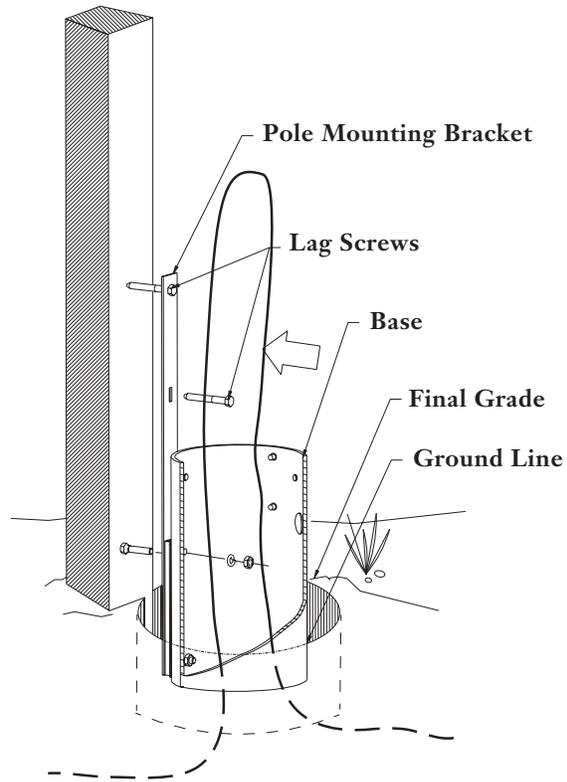

Figure 4
- Step 1** Attach the pole-mounting bracket to the pedestal base using the hardware provided (Figure 4).